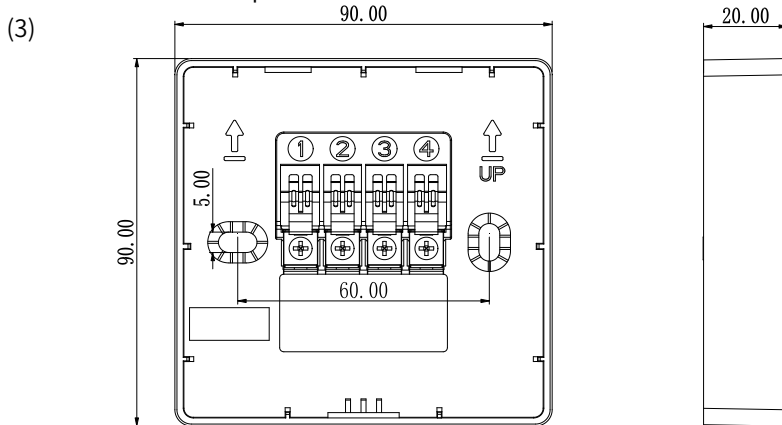

Fig.6
- (1) Determine the installation position, installation spacing and number of conventional manual call points according to relevant regulations and requirements.
- (2) The installation of the conventional manual call point requires a matching base. The supporting base (DZ-9060K) is shown in Figure 6. The external dimensions are 90mm x 90mm x 20mm (L x W x H), the diameter of fixed holes is $\varnothing 5\text{mm}$, the spacing of fixed holes is 60mm. The cable protection pipe goes through the mounting hole from the bottom of the special base..